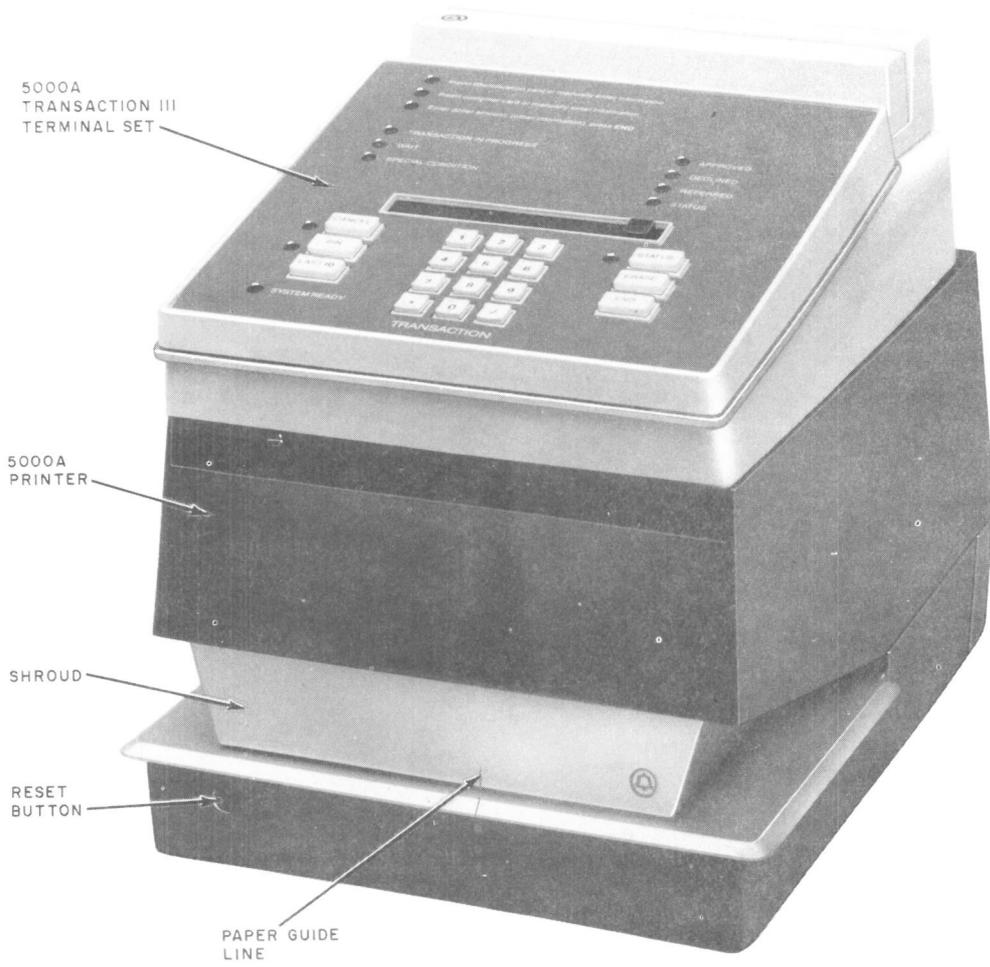

Fig. 9—5000A Transaction III Terminal Set Installed on 5000A Printer
3.11 To install a 5000A printer with 5000A terminal set located on printer (Fig. 9), proceed as follows:
Note: Paper may be inserted from the front or from the right side. Position paper so that back of paper is against the paper guide and the left side lines up with the paper guide line on the shroud (Fig. 9).